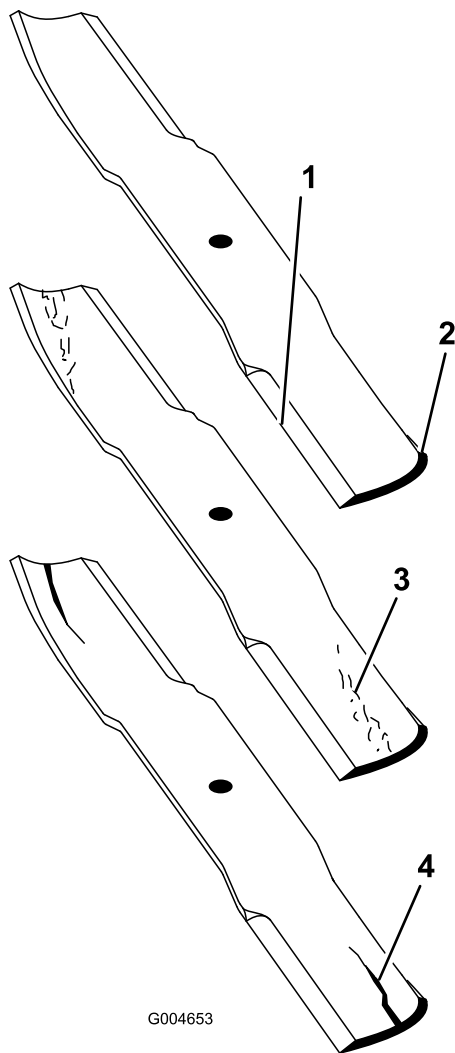

Figure 113
2. Examine the cutting ends of the blade carefully, especially where the flat and curved parts of the blade meet (Figure 113).
Note: Because sand and abrasive material can wear away the metal that connects the flat and curved parts of the blade, check the blade before using the mower. If wear is noticed (Figure 113), replace the blade.